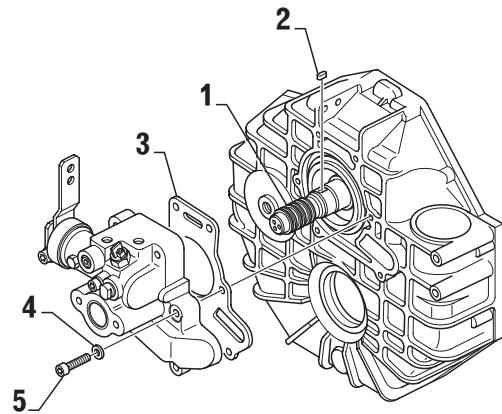

FIG. 6-1
**Piston rings (item 1, Fig. 6-1) have to be replaced, if thickness is less than 2.39 mm (0.094in).**
- Insert key (item 2, Fig. 6-1) into groove of shaft.
- Place new seal (item 3, Fig. 6-1) onto control block.
- Insert lock washers (item 4, Fig. 6-1) on socket head bolts (item 5, Fig. 6-1) and provide screw threads each with a drop of Loctite 243.